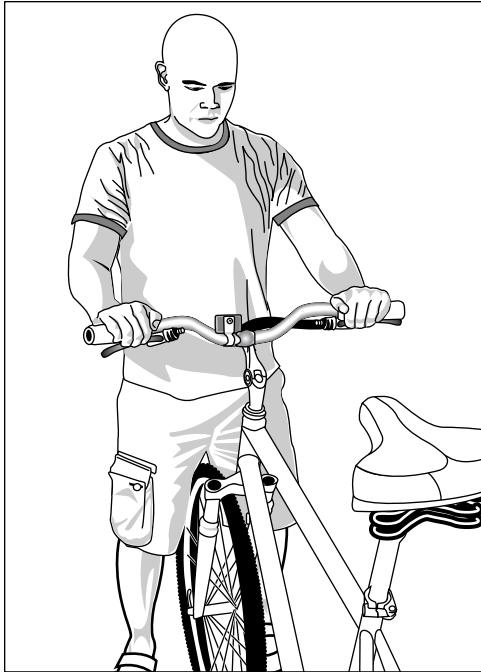

Figure 4-7:
1. **Stand in front of your bike with the wheel between your legs and the handlebars in your hands, as shown in Figure 4-7.**